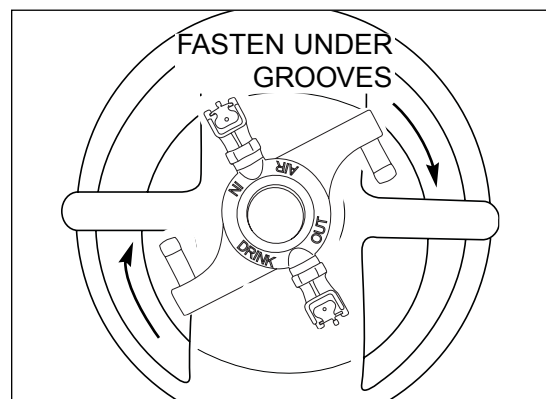

Figure 13
2. Insert the RISING PIPE and the WHITE ADAPTER into the container. Position the inlet grooves on the ADAPTER over the handles. Make sure it is securely fastened (See *Figure 13*).